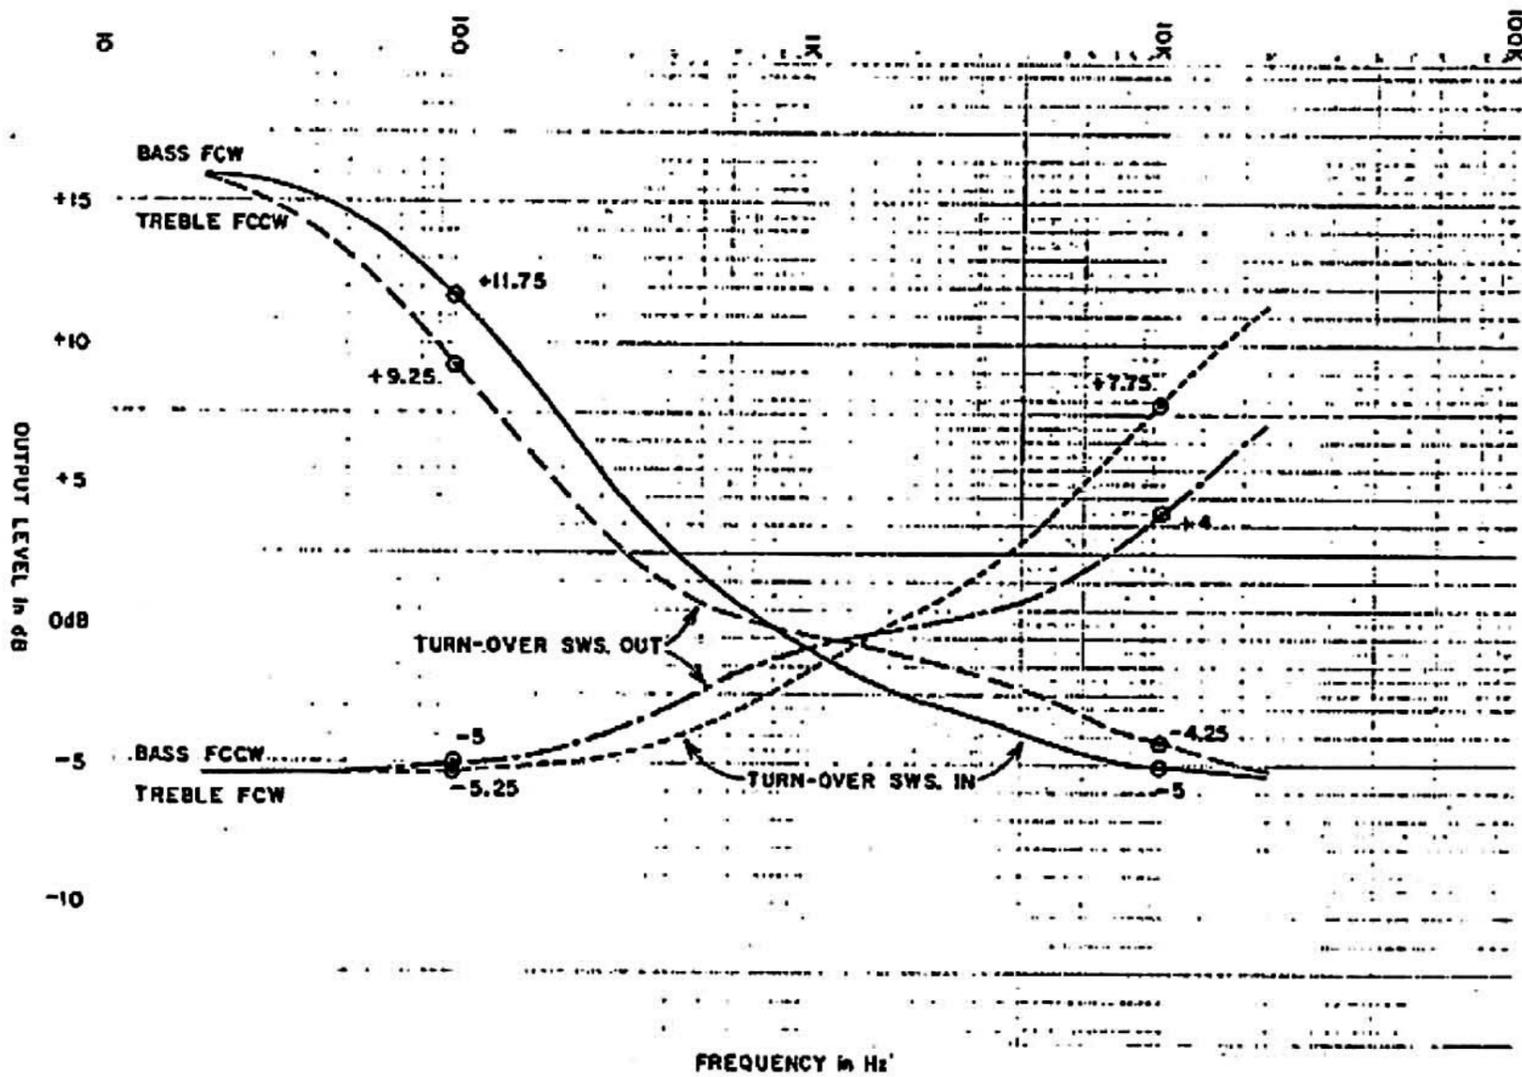

Figure 6-2. Tone Control Turnover Response
- C) Referring to Figure 6-2 and Table 6-2 below, set input frequencies and bass and treble TONE CONTOUR controls and TURNOVER switches per the indicated settings and verify that the FREQUENCY RESPONSE at each output is within ±0.5dB of the values indicated at each of the test points (circled).